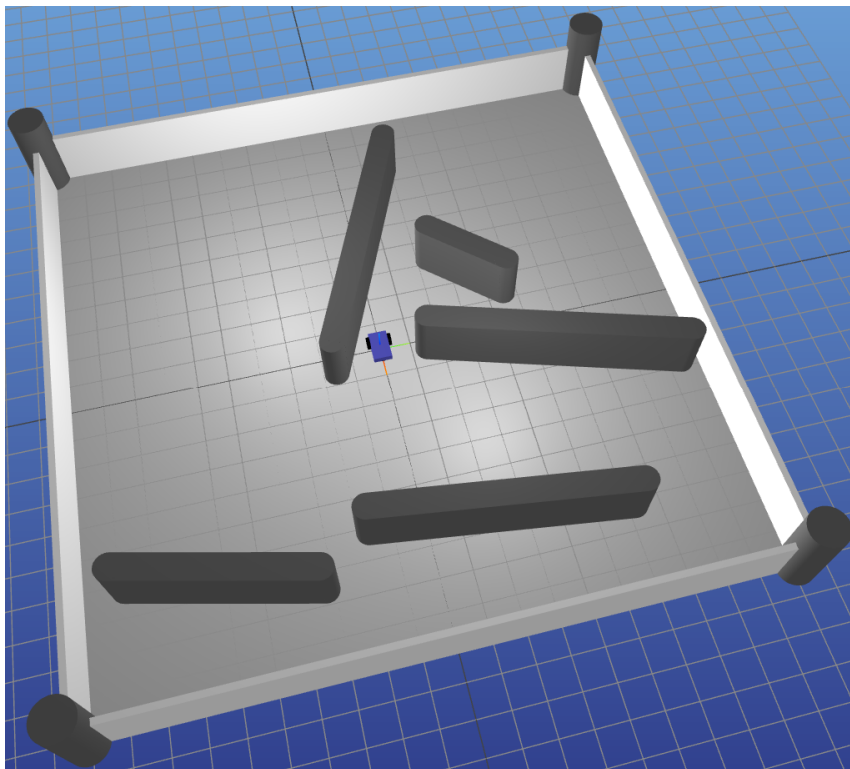

Figure 1: Mobile robot in a 2D environment.
In this project you will focus on solving a mobile robot navigation problem. The overall application is depicted in Figure 1. The robot has to navigate from a start pose to a goal pose, while avoiding obstacles. For no-collision purposes the robot is modeled as a circle and each of the obstacles as a capsule. The robot is equipped with a GPS sensor, that measures its position (but not orientation). The robot has to estimate its position and orientation from the GPS sensor measurements and known control inputs, and then use this information to control its motion.
1. A basic simulation environment simulating the differential-drive robot and laser distance sensors, as seen in Figure 1.